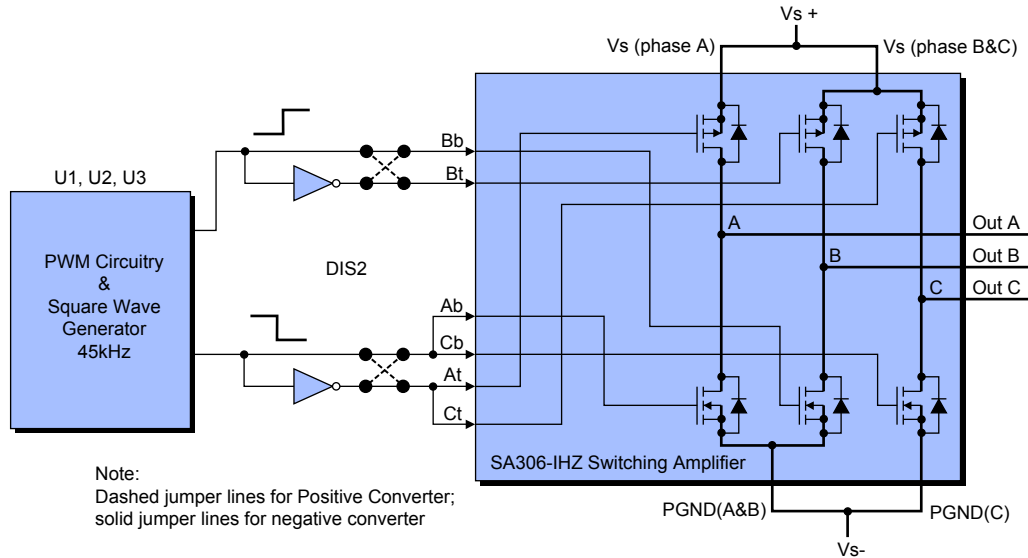
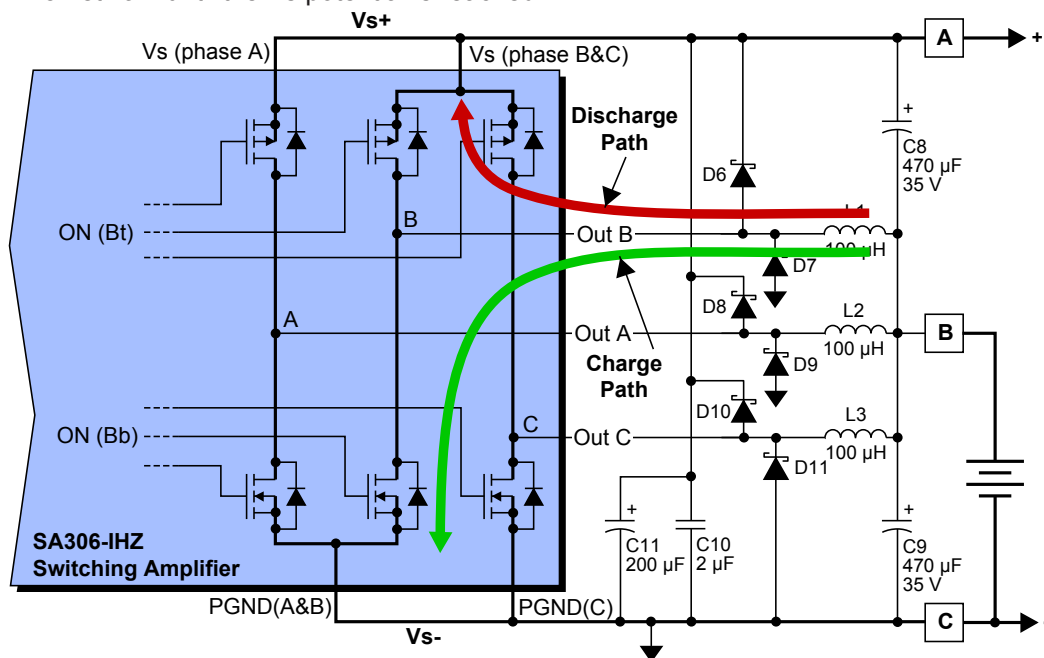
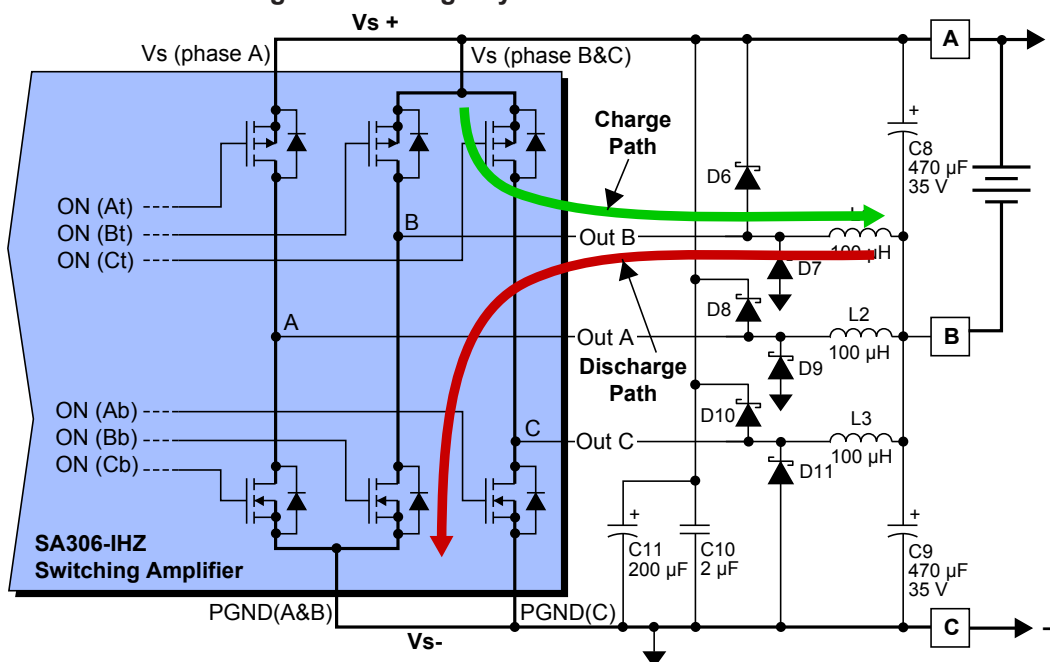

Figure 2. PWM Circuitry Interface with the SA306-IHZ Inputs – Simplified
Figure 3 – Charge Dynamics – Positive Converter
Figure 4 – Charge Dynamics – Negative Converter
The drive circuit shown in Figure 1 comprises three Texas Instruments TLC555 CMOS Timers, as well as the left block in Figure 2. In Figure 1, U1 serves as a 45 kHz oscillator. It, in turn, drives U2 and U3 which can be thought of as pulse width modulators (PWMs). As can be seen in Figure 1, U4A inverts the input to U3 so that it operates out of phase with its companion, U2. Even though the SA306-IHZ is a three-phase device with three sets of MOSFET half bridges, A, B and C operate in this application as a two-phase switch. Notice at the bottom of Figure 2 that Ab and Cb, as well as At and Ct are tied together, transforming the operation of the SA306-IHZ in to a two-phase operation. The two waveforms shown in Figure 2 are there to underscore the fact that the B phase (Bt and Bb) and the A & C phases (Ab, Cb) and (At, Ct), are always driven out of phase with each other. These out-of-phase signals toggle the inputs to the MOSFETs in the switching amplifier SA306-IHZ (U5). This alternating toggle arrangement distributes the power properly within the SA306-IHZ die, allowing maximum current throughput and reducing ripple current.
**Positive Converter** – For the positive converter configuration shown in Figure 3, inductor L1 is charged during the ON interval through the bottom MOSFET (Bb) switch. Inductor L1 sees  $V_{s-}$  on the left side and  $V_{bat}$  plus on the right; therefore, the current is essentially a ramp, as depicted in the figure because the voltage across the inductor is essentially constant and current is the integral of voltage. Then during the OFF interval the inductor discharges through the top MOSFET switch (Bt), exiting through terminal A to the attached load. Again, the same occurs for the A and C MOSFET switches during alternate cycles except their inputs are tied together, as shown in Figure 2, and therefore the At-Ct and Ab-Cb pairs are driven in unison.
**Negative Converter** – For the negative converter configuration shown below in Figure 4, inductor L1 is charged during the ON interval through the MOSFET (Bt) switch. When the Switch transfers to the "charge" mode, inductor L1 discharges through the bottom MOSFET switch (Bb) into the power ground. The same occurs for the A and C MOSFET switches during the alternate cycle except their inputs are tied together, as shown in Figure 2, and therefore At and Ct and Ab and Cb pairs are driven in unison.